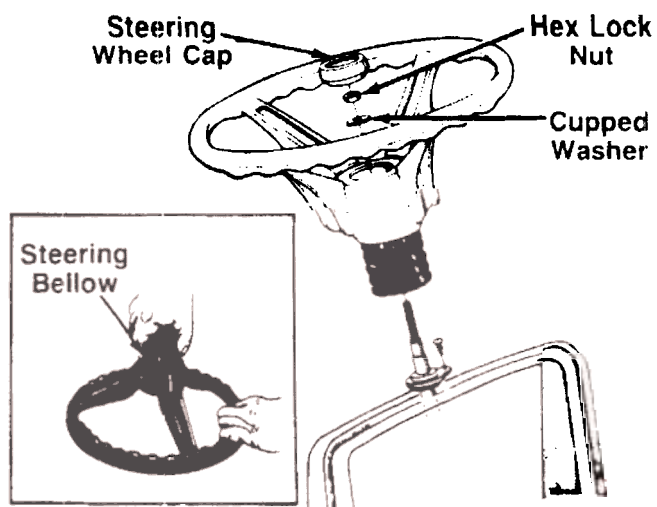

FIGURE 6.
3. Attach one end of steering bellow to the steering wheel as shown in figure 6, inset.
6. Place the washer with the cupped side down over the steering shaft. Secure with 5/16" hex lock nut. — See figure 6.